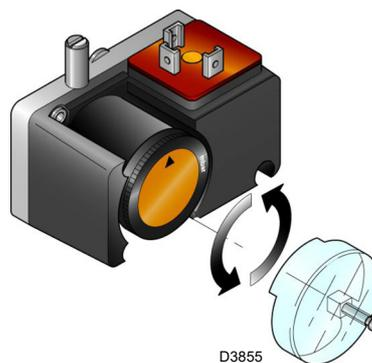

Fig. 34
- Adjust the minimum gas pressure switch (Fig. 34 at page 38) to the start of the scale.